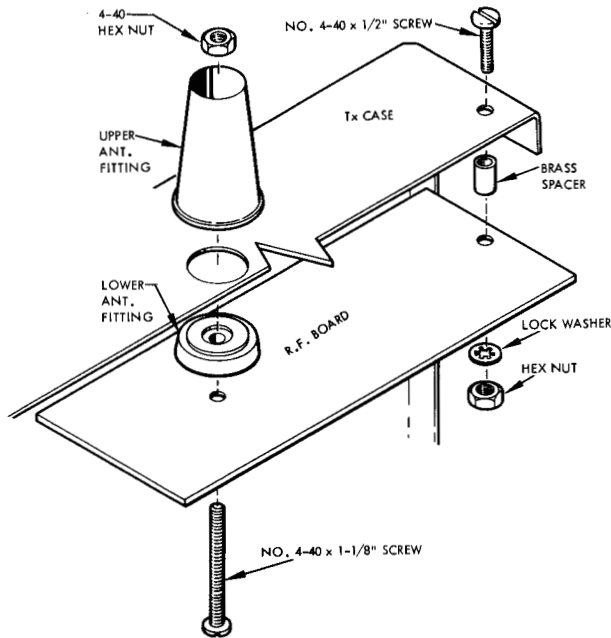

Figure 29. Installation of RF Board
- 158. Position logic board over transmitter battery. Cut and slide a single 1/8" length of 3/32" diameter shrink tubing over outer end of cable formed by the three Group (A) wires, then slip a 3/32" x 1/4" section of shrink tubing over each wire end. Tin CH. 1 pot terminals, then solder these three wires to pot terminals as shown. Position shrink tubing to cover terminals and hold cable end securely, then shrink into position.
- 159. In like manner, connect Group (B) wires to CH. 2 pot.
- 160. Similarly, connect Group (C) wires to CH. 3 pot.
- 161. Similarly, on 2-stick 4-channel transmitter, connect Group (D) wires to CH. 4 pot. On single-stick unit, solder the three rudder wires coming from the stick shaft to proper holes at position (D). Observe wire color coding carefully. On 3-channel unit, no connections are made here.
- 162. Cut 1/2" from end of red wire from battery pack. Strip 1/8" insulation from end. Tin and solder this wire to logic board at position (E). Clip off excess wire.
- 163. Solder black wire from (I) to both switch terminals, position (N). Clip off excess wire.
- 164. Solder wire from (J) to front solder lug on lamp socket.
- 167. Attach RF board to inside top of transmitter case as shown in figure 29. Tighten hardware securely with screwdriver.